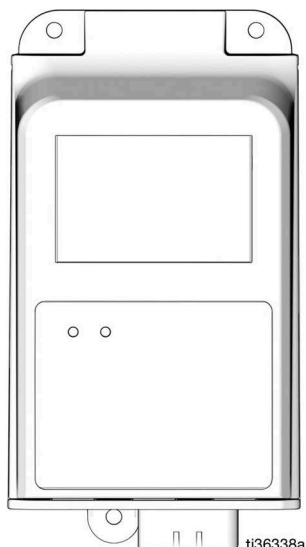

FIG. 6 Pre-drilled holes
2. Align the junction box with the pre-drilled holes (FIG. 6). Secure the junction box to the mounting surface with three screws (not provided).